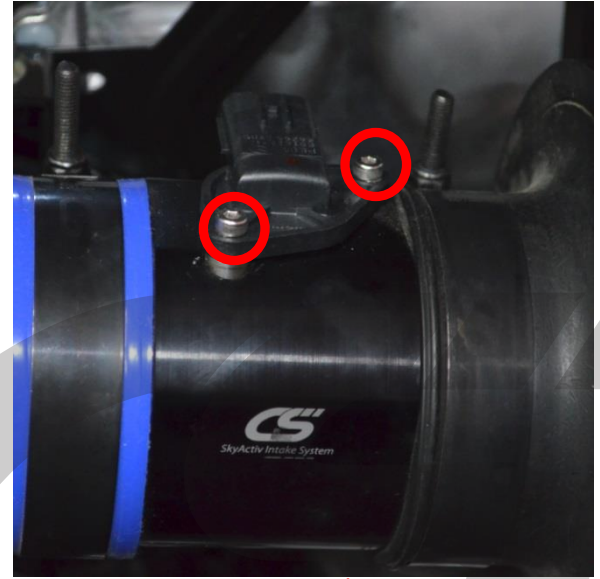

Figure 2b
- f) Install MAF sensor from factory air box. (Red Circles in Figure 2b)
- f) Install MAF sensor from factory air box. Make sure the MAF seals flat and that the o-ring is not pinched between the MAF and housing. If necessary apply a small amount of grease to the o-ring. Start the two provided Allen head screws included with the CS MAF assembly. Double check that the o-ring is not pinched before tightening the two 3mm Allen bolts down. (Red Circles in Figure 2b)